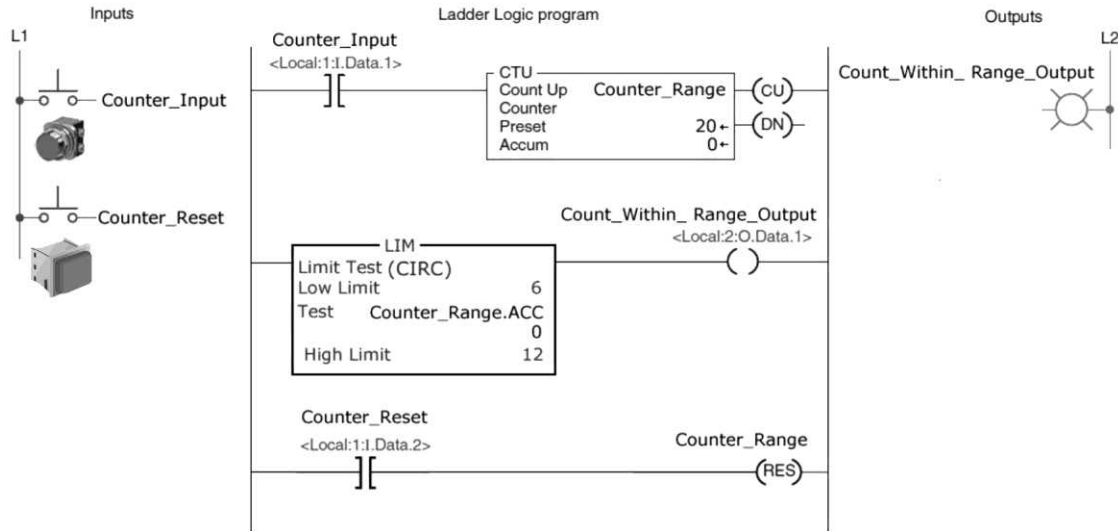

Figure 10-41 Limit Test program for assignment 20.
20. The Limit Test (LIM) program of Figure 10-41 is described in the text. Prepare an I/O connection diagram and ladder logic program that will simulate its operation. Use addresses that apply to your PLC installation. Enter the program into the PLC, and verify its operation.